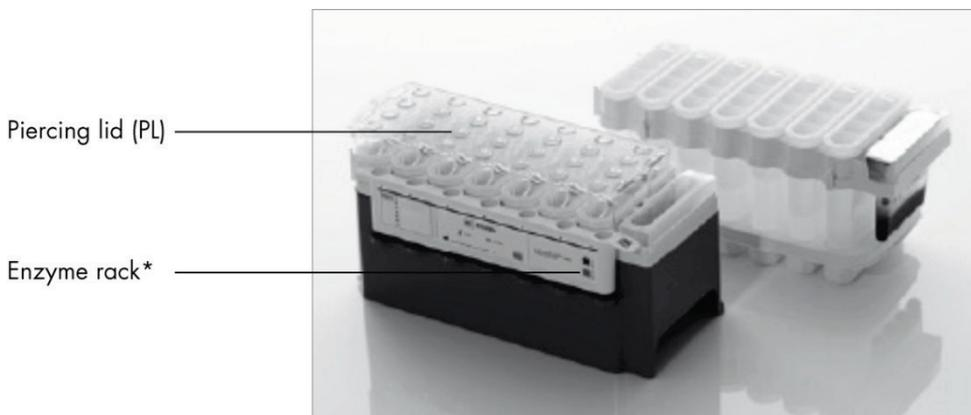

Figure 3. Easy worktable setup with reagent cartridges (RC). * The QIASymphony DSP HPV Media Kit does not include or require an enzyme rack.
Before starting the procedure, ensure that the magnetic particles are fully resuspended. Remove the magnetic-particle trough from the reagent cartridge frame, invert it until all magnetic particles have been re-suspended homogeneously (do not vortex), and replace it in the reagent cartridge frame before the first use. Place the reagent cartridge (RC) into the reagent cartridge holder. Before using a reagent cartridge (RC) for the first time, place the piercing lid (PL) on top of the reagent cartridge (RC) (Figure 3).